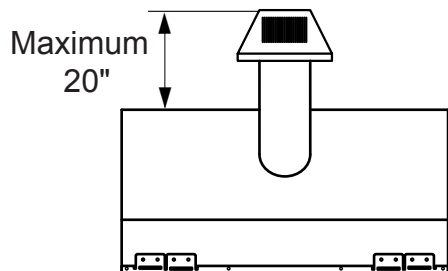
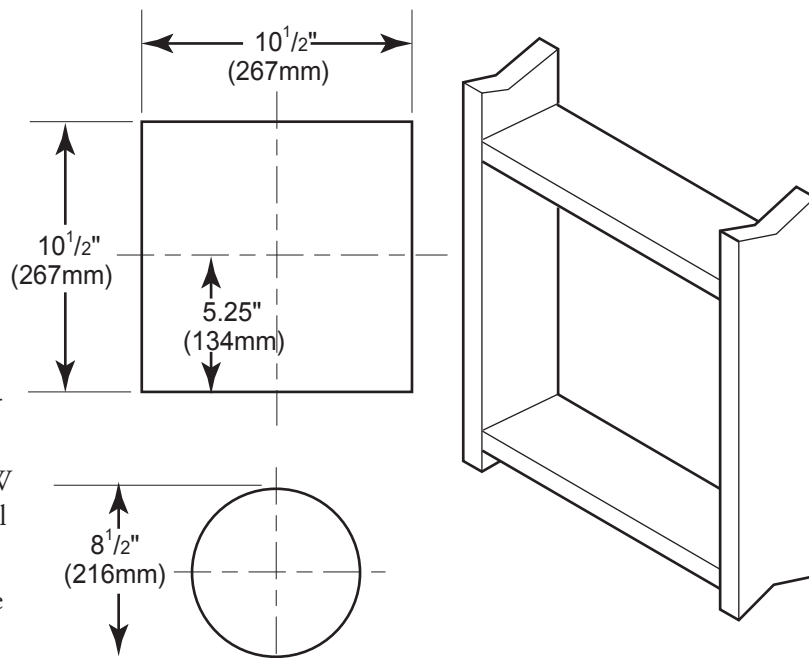

Figure 11 - Rear Vent Application, Maximum Horizontal Distance
Figure 12 - Vent Opening Requirements
The maximum horizontal distance between the rear of the appliance and the outside of termination is 20" (508 mm). See Figure 11.
1. Locate and cut the vent opening in the wall. For combustible walls first frame in opening. See Figure 11.
**Combustible Walls:** Cut a 10 $\frac{1}{2}$ "H x 10 $\frac{1}{2}$ " W (267mm x 267mm) hole through the exterior wall and frame as shown. See Figure 12.
3. Attach vent pipe assembly to the fireplace. Set fireplace in front of its permanent location to insure minimum clearances. Mark the wall for a 10 $\frac{1}{2}$ "H x 10 $\frac{1}{2}$ "W (241mm x 241mm) square hole (for noncombustible material such as masonry block or concrete, a 8 $\frac{1}{2}$ " [216mm] diameter hole is acceptable). See Figure 11. The center of the hole should line up with the center line of the horizontal rigid vent pipe end. Be sure to allow for minimum rise. Cut a 10-1/2"x10-1/2" (267mm X 267mm) square hole through combustible exterior wall (8 $\frac{1}{2}$ " [216mm] diameter hole if noncombustible). Frame as necessary. Allow  $\frac{1}{4}$ " minimum rise per foot. See Figure 12.
1. Establish vent hole through the wall. *See Figure 12, page 17.*